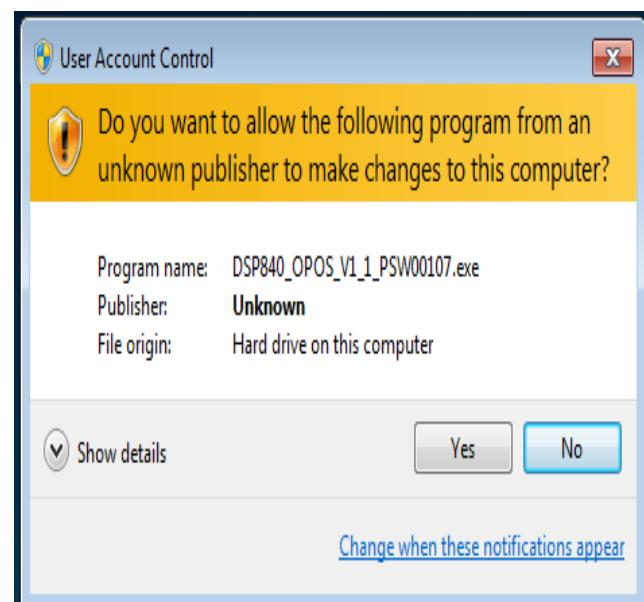

Figure 2-8 User Account Control,
2. Show User Account Control Dialog, press Yes button, see Figure 2-8.